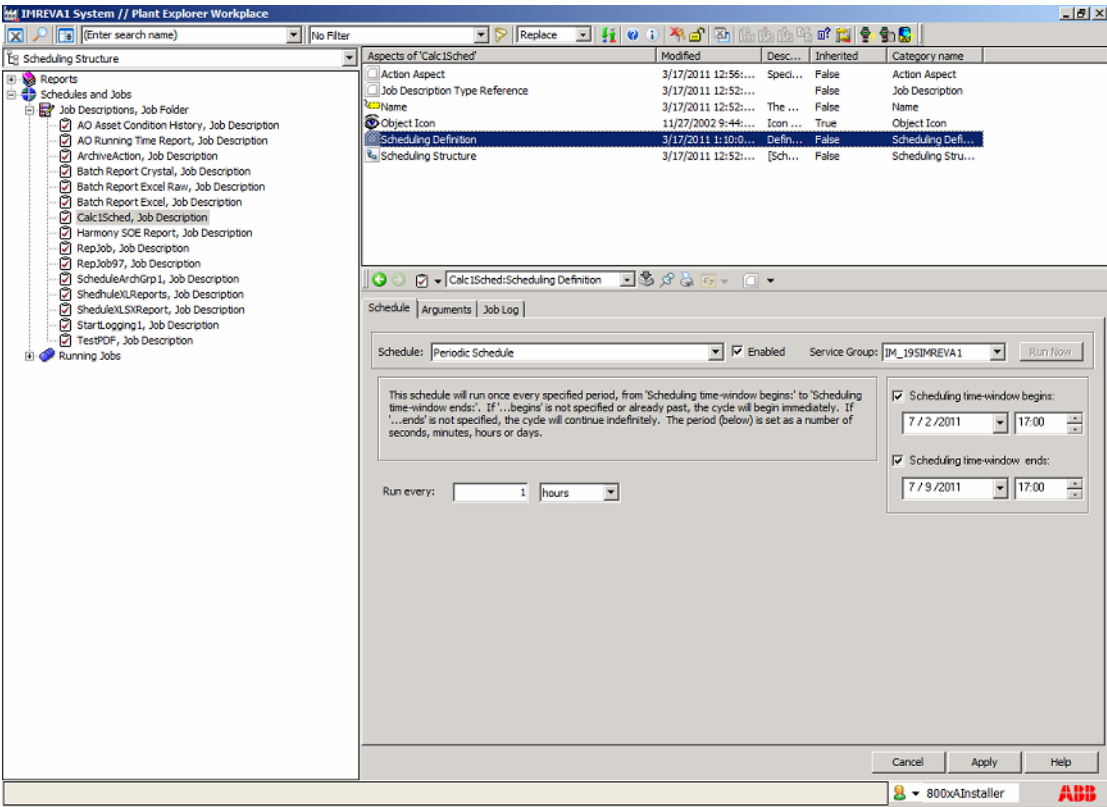

Figure 64. Scheduling Definition Configuration View
5. Click the **Scheduling Definition** aspect to display the configuration view, Figure 64. This figure shows the scheduling definition aspect configured as a periodic schedule. The calculation will be executed once every hour, starting July 2th at 17:00 (5:00 PM), and continuing until July 9th at 17:00.